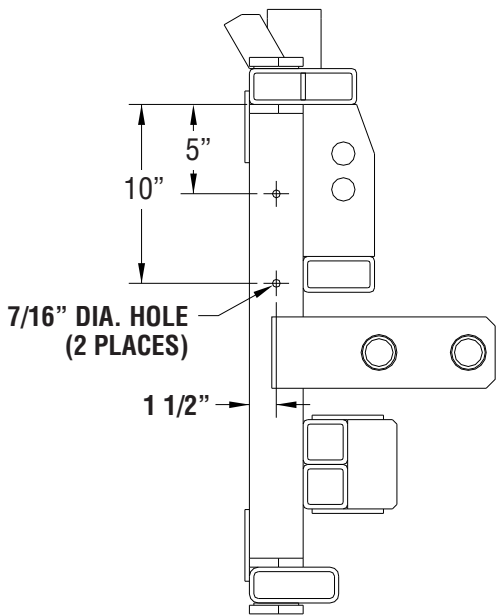

Figure 1
Step 1 - Install new pump to right side (passenger side). Drill two holes in frame as shown in Figures 1 & 2, and mount pump with hardware.